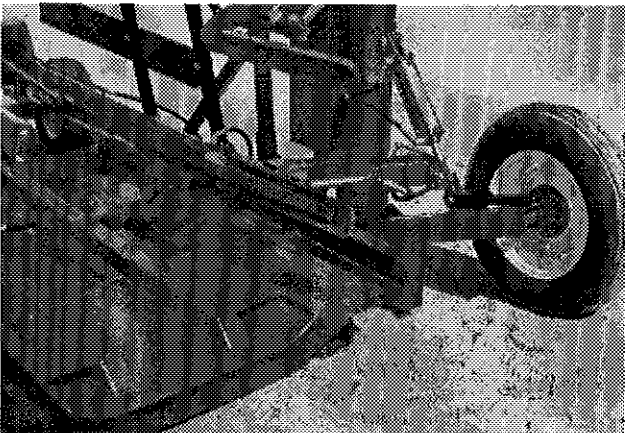

Figure 20
- 5) Adjust rear wheels in order to have a minimum amount of ground friction with the rear end of the SilaTube (Fig. 20) while keeping it in contact with the ground.